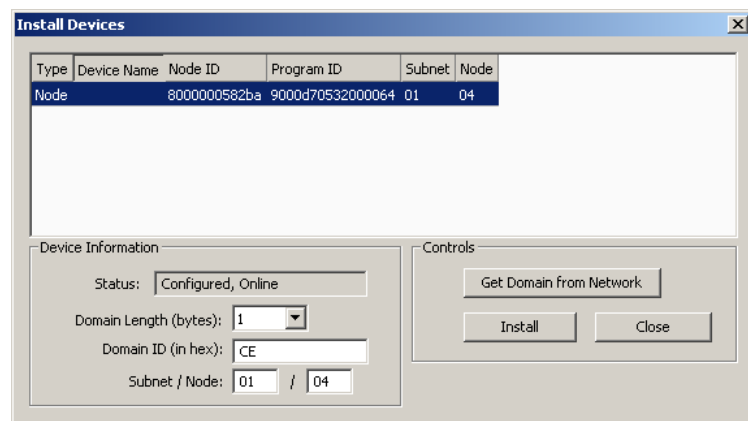

Figure 91: Install devices dialog.
2. Click the **Install** button. This opens the **Install Devices** dialog as shown in Figure 91.